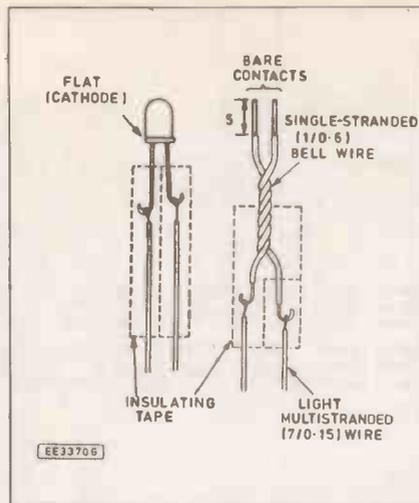

Fig. 10. Connections to D3 and the touch contacts.
There is only just enough space behind the control panel to hold the microswitch, the l.e.d., the contact wires and the lamp, so this part of the assembly needs to be well thought out at all stages. First attach leads about 120mm long to the l.e.d., lamp and microswitch and twist the contact wires together (Fig. 10). Use multistranded insulated wire of as light a gauge as you can obtain. We used 7/0.15 (7 strands, 0.15 mm diameter) P.V.C. covered cable, with external diameter 1mm. Make sure that the anode and cathode leads of the l.e.d. are identifiable, either by using wire of different colours or by marking their free ends. Check that the microswitch leads are attached to the correct pair of terminals, 'common' (C) and 'normally closed' (NC).